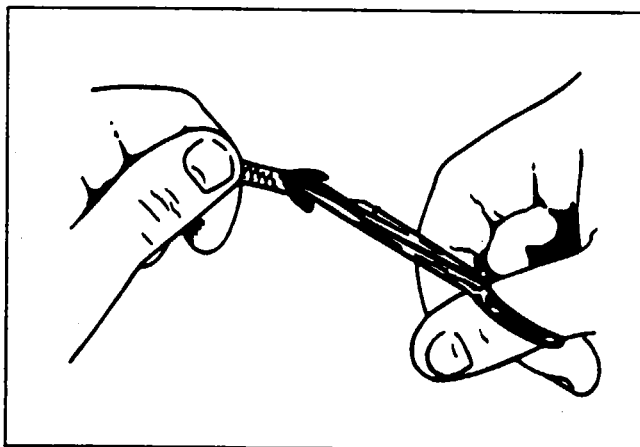

Figure 8-24. Cutting Metallic Braid From End of Lead
8. Using electrician's scissors, carefully remove 1.250 inch of outer braid from end of lead. Refer to Figure 8-24.